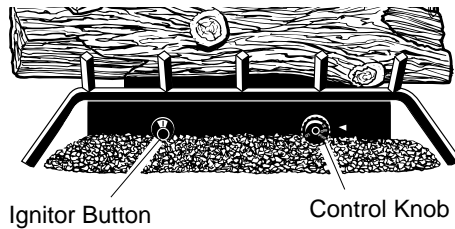

Figure 32 - Control Knob and Ignitor Button Location
- Turn control knob counterclockwise to the PILOT position. Press in control knob for five (5) seconds (see Figure 32).
**Note:** If pilot goes out, repeat steps 3 through 7. This heater has a safety interlock system. Wait one (1) minute for system to reset before lighting pilot again.